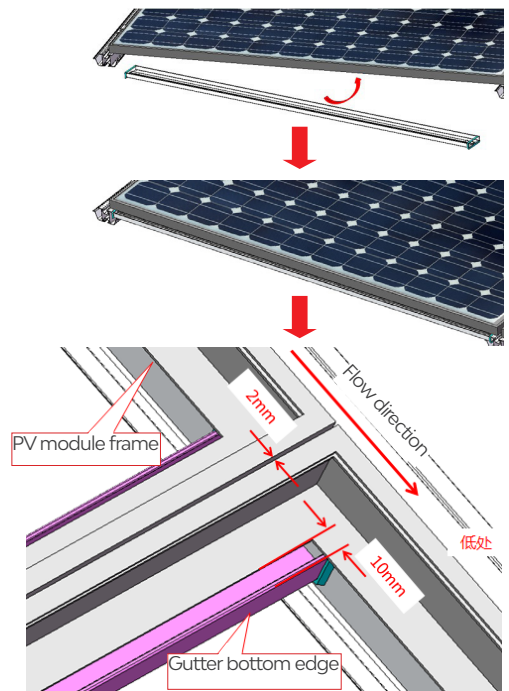

Figure 26
5.6.3 Tilt the Gutter and place it between the bottom of the PV Module and the Rail 60 with Water Channel as shown in Figure 26. The order of the Gutter is the same as the PV Module, from low to high, and from left to right.
5.6.4 Straighten the Gutter, make sure the bottom edge of the Gutter is parallel to the lower edge of the bottom frame of the lower PV Module and offset downward by about 10mm as shown in Figure 26.